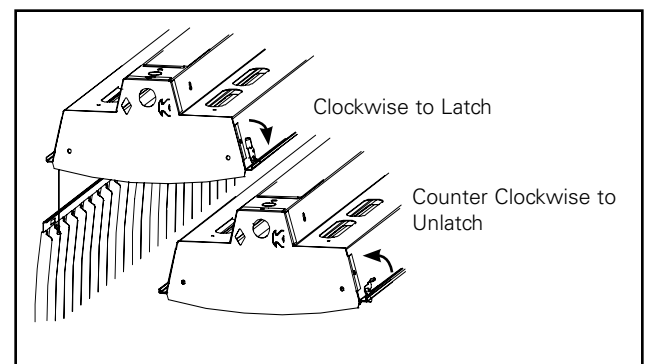

Figure 1.
1. Rotate all latches counter clockwise (Figure 1).